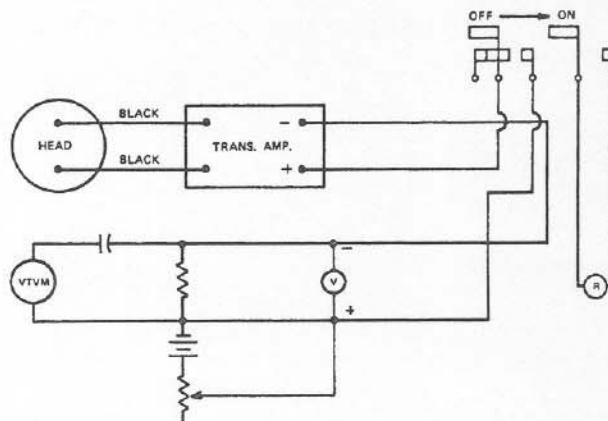

FIGURE 7 - Test Set-up
7. Test Procedure: (See Figure 7)
The best procedure for testing the microphone is to compare its output with one known to be operating properly, using the test set-up shown in Figure 7. Check the output voltage as follows: